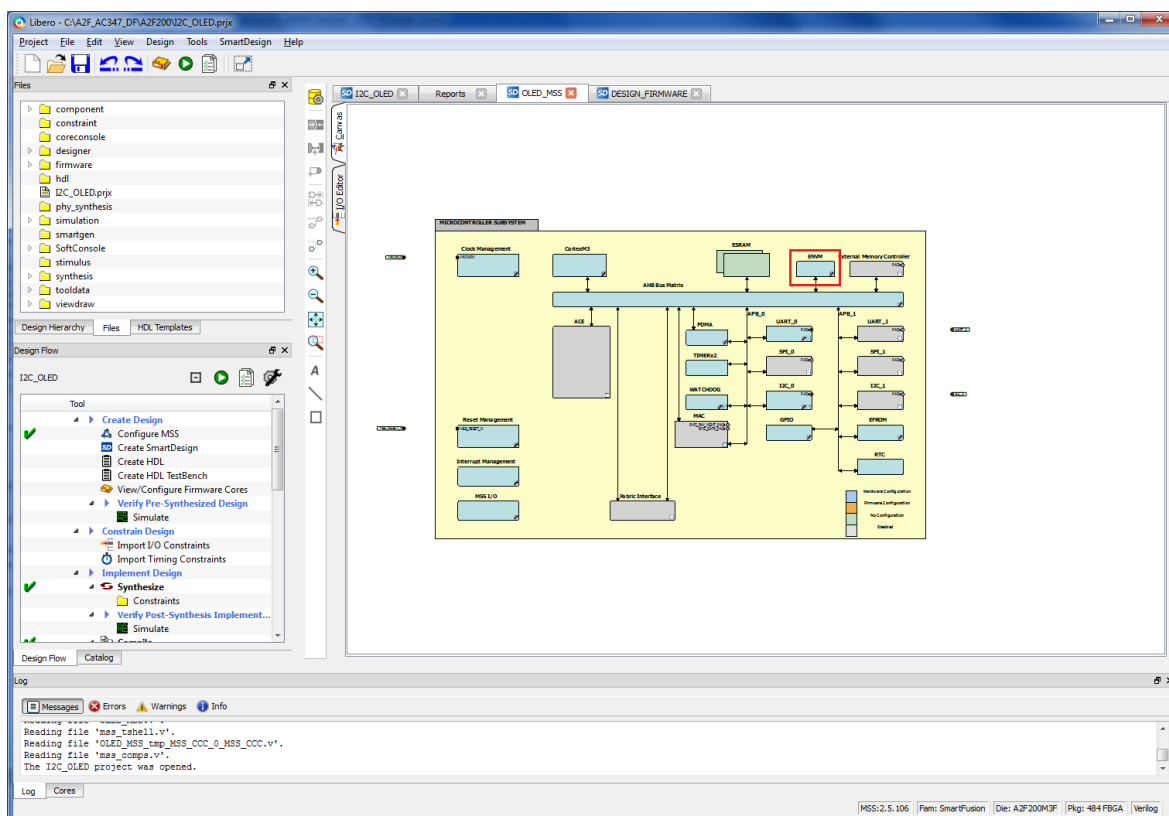

Figure 6 · SmartDesign MSS Configurator
2. Open the MSS component created using the SmartDesign MSS Configurator by double clicking on the MSS component present in the 'Design Hierarchy' window. The **SmartDesign MSS Configurator** tab is displayed as shown in Figure 6 .